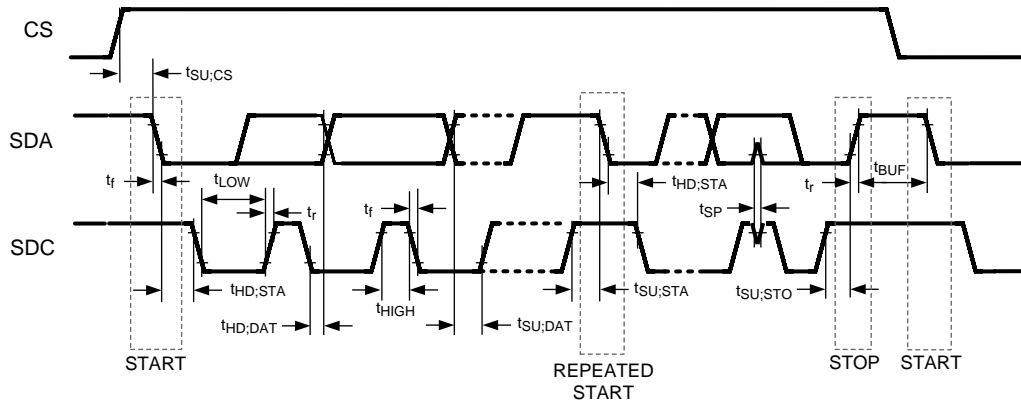

Figure 6. SMBus Timing Parameters
| Serial Bus Interface Timing Specifications – (See <a href="#">Figure 6</a>) (4)(5) |  |   |     |          |          |         |